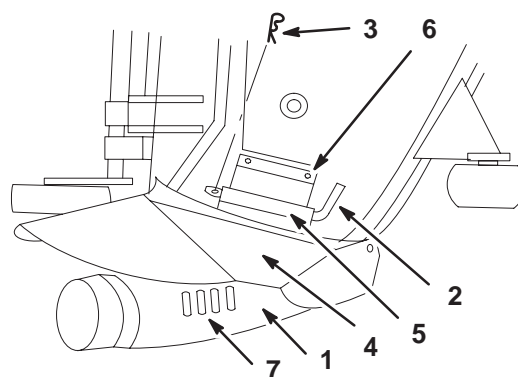

Figure 14
6. Install the boot bracket with 2 bolts (1/4 x 1/2 in.) and 2 flange nuts (1/4 in.) (Fig. 14).
3. Lift the grass deflector all the way back. This will eliminate interference with the boot (Fig. 14).
4. Align the boot with the boot bracket (Fig. 14).
5. Install the boot pin through the boot and boot bracket and secure with a hair pin cotter (Fig. 14).